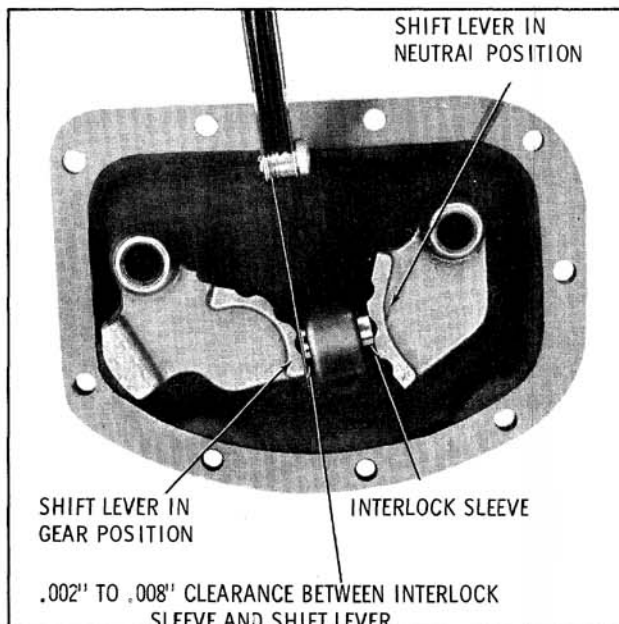

Fig. 7-34 Checking Interlock Sleeve Clearance
4. Position one lever in neutral (center detent) and the other lever into a gear position. Check clearance between end of interlock sleeve and shift lever cam. Clearance should be .002" to .008". (Fig. 7-34) Interlock sleeves are available in different lengths to provide a selection for proper clearance.